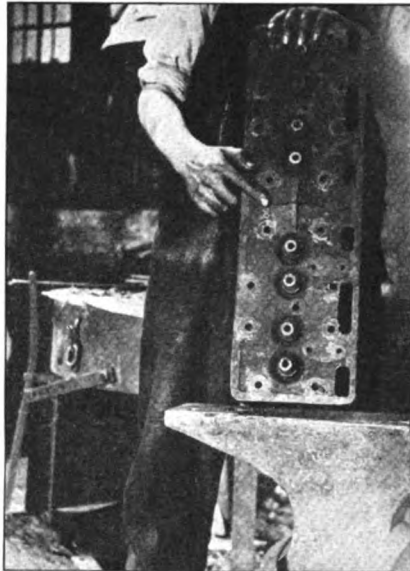
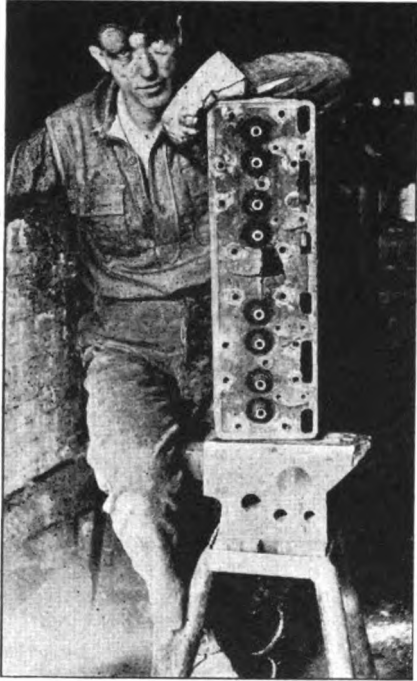
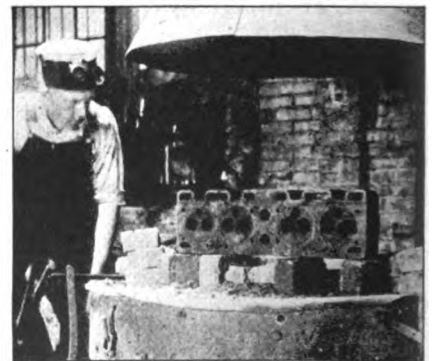
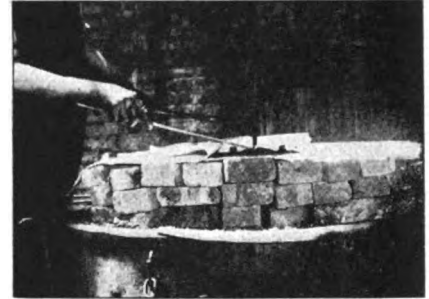

FIG. 1.—SHOWING LOCATION AND EXTENT OF THE CROSS-SHAPED FRACTURE
FIG. 2.—BROKEN PARTS WERE REMOVED AND BEVELED BEFORE PREHEATING
FIG. 3.—THE FIRST PREHEATING POSITION OF THE FRACTURED CYLINDER HEAD
FIG. 5.—PREHEATING OVEN OF FIRE BRICK, WELDING IN PROCESS
In Figures 1 and 2 are shown the extent and nature of the damage to be repaired. In Fig. 1 it will be noted that the cross-shaped fracture divided the broken part into four pieces of almost identical shape and size; and that the pieces are slightly bulging outward. In the second picture is indicated the first step in a process of preparing the damaged cylinder head for
After cleaning and grooving the broken parts, they were wedged in place with wire nails to hold them during the preheating and welding process. Which is indicated in Fig. 3. Here the job is in what might
Fig. 5 shows the preheating furnace complete with the welding in operation.
The same arrangement of preheater was maintained during the cooling process as is shown in Fig. 5. The job was allowed to remain under cover until the casting was cold enough to permit handling
Gauges for marking cut or incised lines are used only on pieces of wood that have been planed straight and true on the edge and face the gauge is used on. Gauges are generally used parallel with the grain, and lines across the grain are squared; but sometimes a gauge is used against planed end grain for marking lines parallel with the end. An ordinary gauge in use is shown in Fig. 2. Its advantage is not only that it can be set to cut a line parallel with an edge and at any distance required from the edge, but that it can be used repeatedly to mark lines at similar distances on other parts of the work, so ensuring uniformity and accuracy. In gauging a piece of board to a thickness, for instance, a line on one edge is not sufficient. The opposite edge must be marked similarly, and a gauge set to the thickness is the most simple and reliable way. In planing a narrow edge a line is gauged on one face only and a square is used to see that it is planed at right angles as well as to the line.
in Fig. 1. The forefinger of the left hand bears against the edge of the wood, and the left hand keeps the pencil end of the rule at the correct distance. Rule and pencil are drawn lightly along and a line
be penciled by hand as in Fig. 5, the principle being the same as that in the case of the rule and pencil in Fig. 1. In Fig. 5 the fingers are in contact with the curved edge and the pencil point is held at a fixed distance from it while being drawn along parallel. This is applicable both to convex and concave curves. An ordinary gauge can be used against curved edges if a special fitting is attached to it. These methods would generally be adopted only when the curve is very flat and either not struck from one centre or not struck from centres at all. If the line required can be struck from the same centre from which the curved edge was struck, then that method is usually better than gauging the line.
Fig. 1.—Marking Pencil Line Parallel with Edge. Fig. 2.—Using Gauge for Marking Line parallel with Edge. Fig. 3.—Piece Out so that Grain Runs in Longest Direction. Fig. 4.—Marking Number of Triangular Pieces. Fig. 5.—Pencilling Line Parallel with Curved Edge. Fig. 6.—(A) Single Piece of Wood used to Give Curved Edge. (B) Two Pieces used to Obtain Same Curve.
the work. A piece of wood of the shape shown by Fig. 3 is generally strongest with its grain parallel with the longest edge, as shown. It is a rule in practically all marking out that the grain should run the longest way of the piece. A number of such triangular pieces would be marked out as in Fig. 4, which makes less waste and less sawing than cutting separate rectangular pieces to triangular shape. To cut diagonally across a board almost invariably means that some of the part left over must be wasted, for it is not likely that a piece with a diagonal end could be used without cutting it square first. On the other hand, a diagonal cut on the piece unused may be better than a square cut to a shorter length, for it would give a greater length at reduced width.